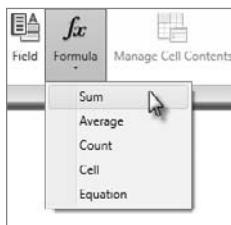

FIGURE 9.70 Adding a formula to the cell
- 5.** Click in the empty cell at the bottom of the Cost column to select it. In the Insert panel, click the Formula button and then choose Sum, as shown in Figure 9.70.